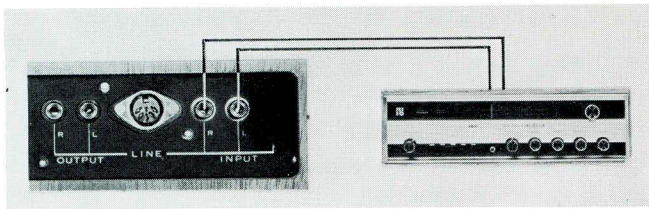

Fig. 28
If an external amplifier or tuner-amplifier combination is used, connect TAPE OUTPUT leads of the external amplifier to the LINE INPUT JACKS instead of step (G) of recording procedure (Fig. 28).
(See Figs. 28, 29, and 30 of this manual).